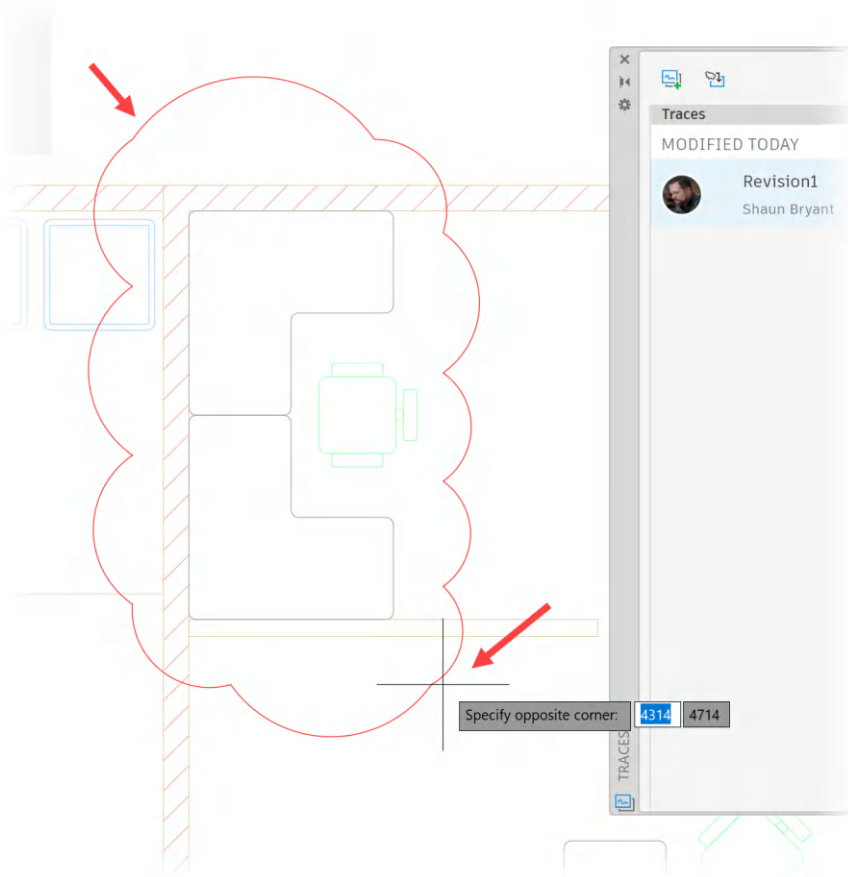

Figure 16.11: The placing of the rectangular revision cloud with both opposing corner points arrowed
16. Zoom to the top-left executive office in the office floor plan and place your rectangular revision cloud around the double desk configuration in that office, as shown in *Figure 16.11*. Click the two opposing corners of the rectangular revision cloud, as if you were placing a rectangle using the **RECTANGLE** command.